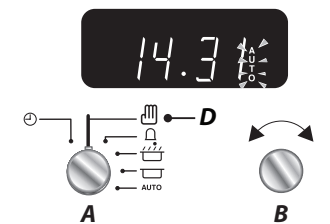

Fig. 2.13
To cancel any automatic settings turn the **Timer (A)** knob to the **Clock (C)** setting and release (**Fig. 2.13**).